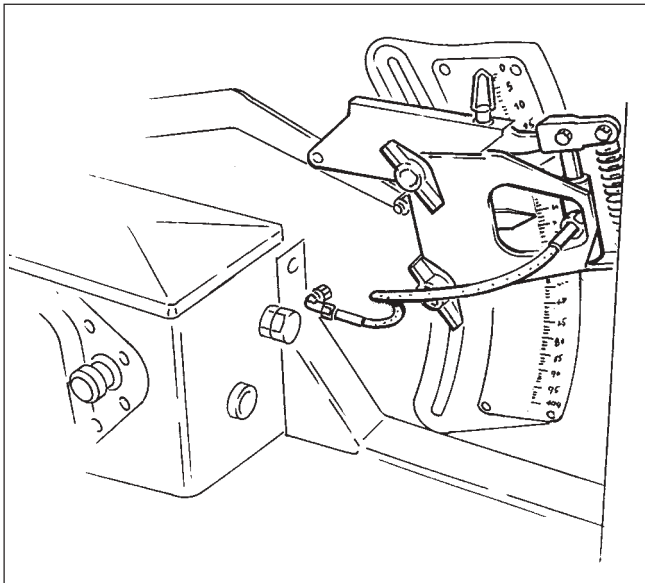
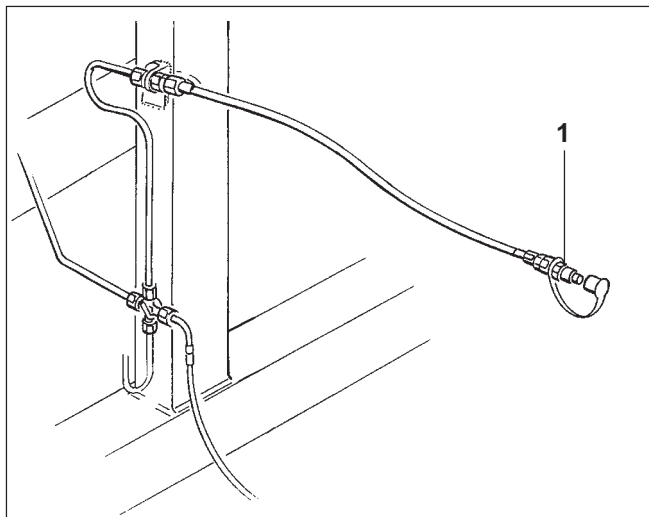
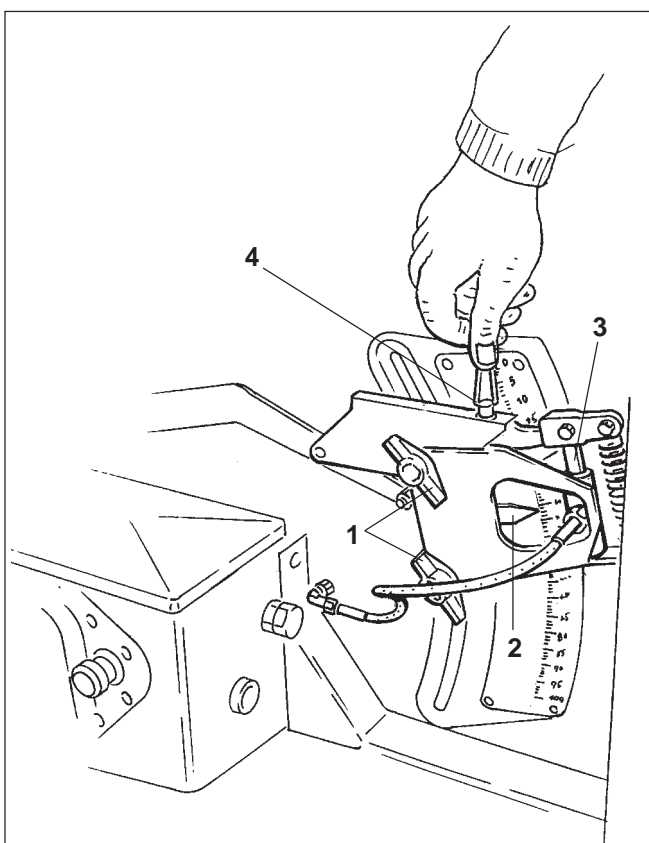

Fig. 31.1
Fig. 31.2
Fig. 31.3
On fields with frequently changing soils it is possible with the aid of the hydraulically actuated seed rate remote control (Fig. 31.1) to apply an increased seed rate in areas of heavier soils. The seed rate remote control is actuated by a single acting control valve in the tractor cab.
On delivery the pre-setting mechanism (Fig. 31.1) is mounted to the gearbox setting lever and the hydraulic ram (Fig. 31.3/3) to the connecting unit II (Fig. 31.2/1), with which your seed drill is also equipped. Connect the connecting unit II to a single acting control valve on your tractor.
- Relieve hydr. ram (Fig. 31.3/3) from pressure
- Remove both star knobs (Fig. 31.3/1)
- Push gearbox setting lever (Fig. 31.3/2) **from below** into the gearbox setting position
- Retighten both star knobs (Fig. 31.3/1).
- Apply pressure to the hydr. ram (Fig. 31.3/3) via the control valve from the tractor cab.
- Turn the setting screw (Fig. 31.3/4) into the threads until the pointer (Fig. 31.3/2) of the gearbox setting lever shows the desired higher setting position.
If on heavy soils the coulters pressure is to be increased but not the seed rate, the setting screw (Fig. 31.3/4) should be driven all the way up. In this case the seed rate does not change even when increasing the coulters pressure.